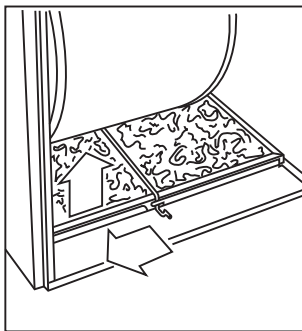

Fig. 25 - Release Filter Retaining Rod (Bottom Inlet)
• AIR FILTER(S) LOCATED IN BLOWER COMPARTMENT BOTTOM:
- c. Slide filter retainer sideways until it is free of latch (See Fig. 25).